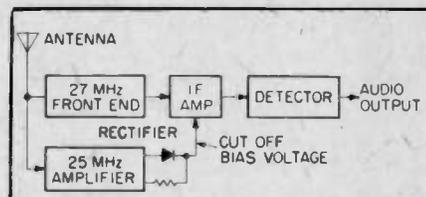

Fig. 18. Perhaps the finest form of noise eliminator in CB is the RF-type employing a separate front end at 25 MHz that listens for "noise."
**And Today...** There are several types of noise suppressor circuits; the easiest to understand is the "RF suppressor" shown in Fig. 18. (All suppressors work on essentially the same principle.)